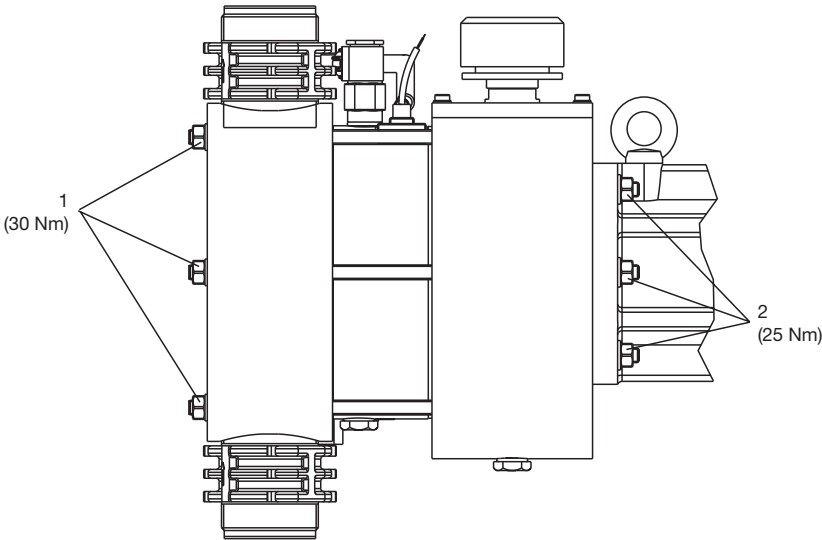

Fig. 17 Makro TZ diaphragm liquid end (TZHa)
- On hydraulic diaphragm liquid ends (TZHa) (see Fig. 17):